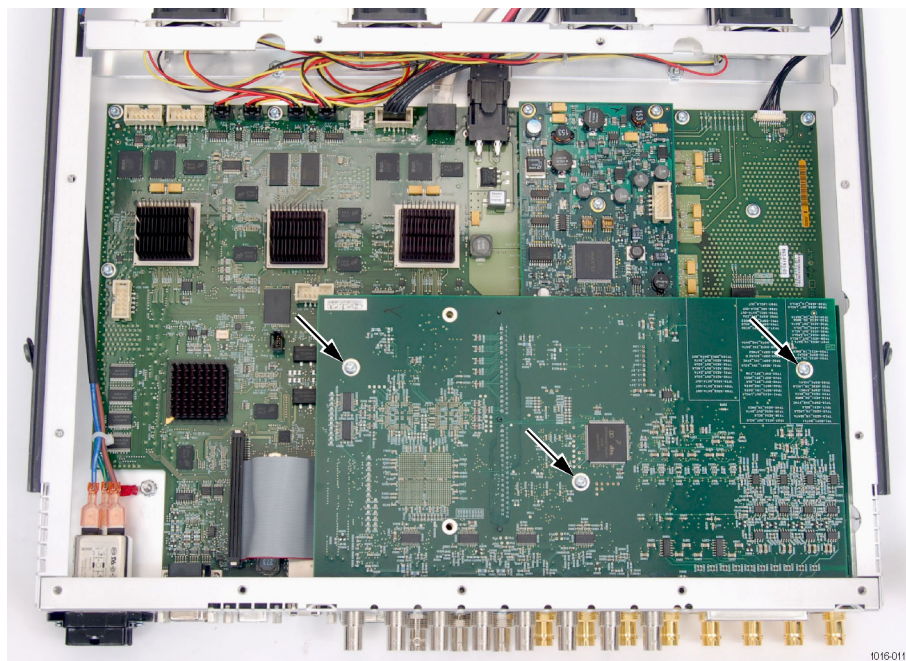

Figure 16: Audio board installed
1. Inspect the instrument for the presence of an Audio board option. (See Figure 16 on page 28.)
1. Inspect the instrument for the presence of an Audio board option. (See Figure 16.)
4. Remove the three T-15 screws securing the audio board. (See Figure 16.)